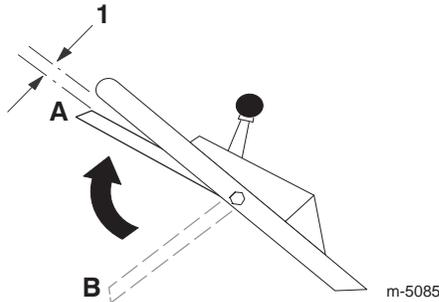

Figure 13
- Lift the blade control bail up to about one inch (2.5 cm) below the handle; refer to position **A** in Figure 13.